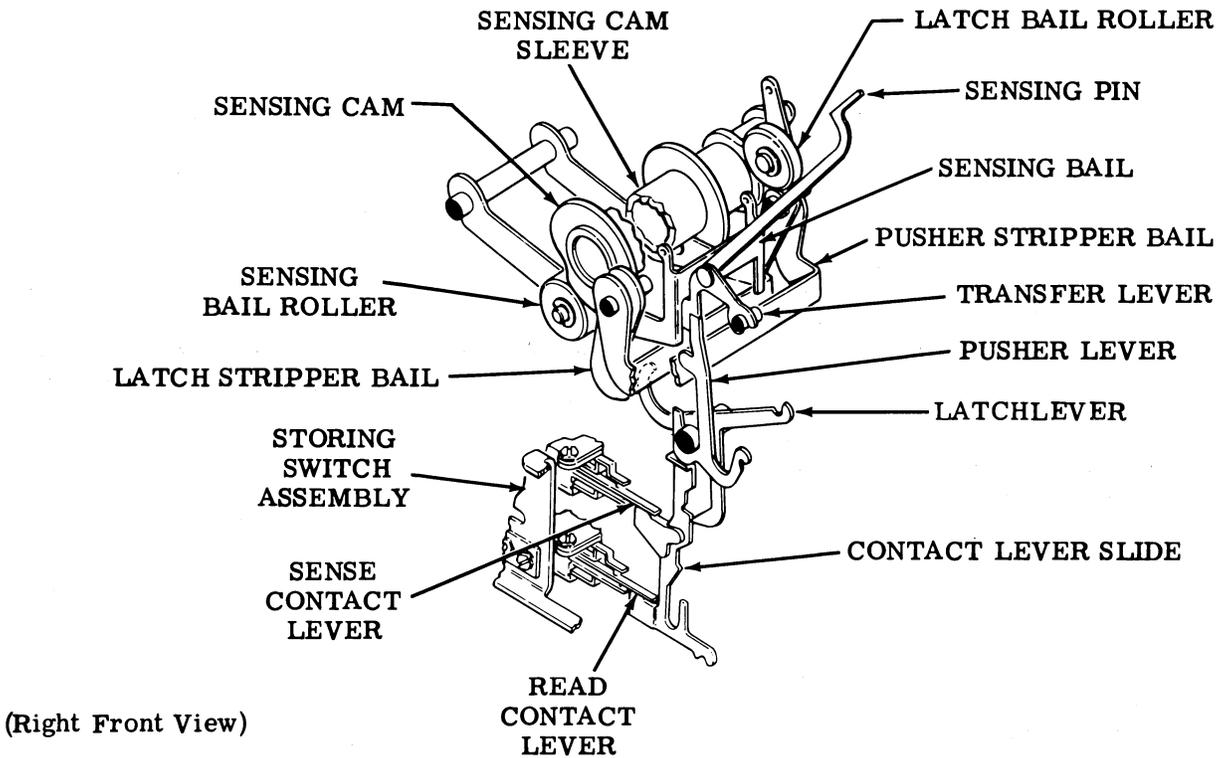

Figure 13 - Tape Sensing Mechanism
7.02 The engaged sensing clutch starts the sensing cam sleeve rotating. The sensing cam, through the sensing bail roller, causes the sensing bail to pivot and the transfer levers and sensing pins to rise (Figure 13).
7.05 The pusher levers (Figure 13) associated with the fully extended sensing pins begin to move downward, engage their associated contact lever slides, and close contacts in the read and sense storing switches. Before contact is made, the latch stripper bail strips the latchlevers which held the contact lever slides during the previous cycle. Before completion of this cycle, the latchlevers are allowed to reset so that the contact lever slides which were pushed down through the pusher levers are again latched. The unselected pusher levers remain in their upper positions through action of their springs.